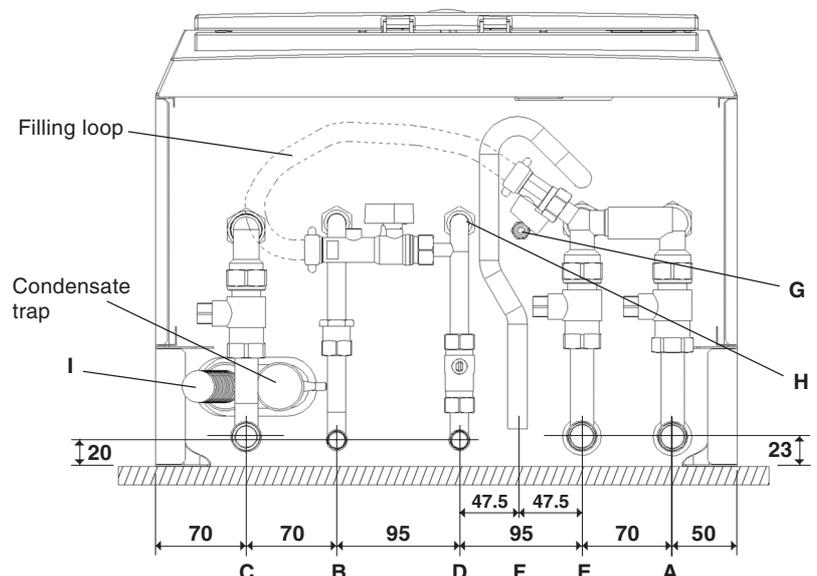

Fig. 13a - HE CB25/33
4.5 CONNECT THE PIPEWORK - Fig. 13a (HE CB25/33) or Fig. 13b (HE SY25)